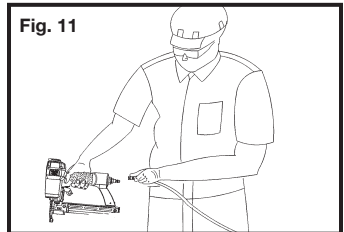

Fig. 11
18. Always assume the tool contains fasteners. No horseplay. Respect the tool as a working implement. Fig. 11.